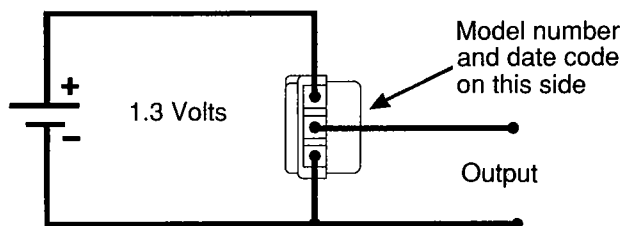

Figure 1 (Negative Terminal Common)
**d.c. Voltage at Output Terminals (See Fig. 1):**